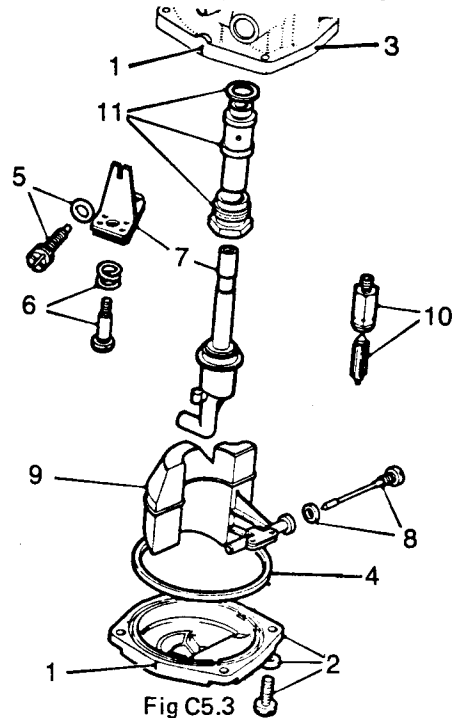

Fig C5.3
- (8) Refer to Fig C5.3. Mark the bottom cover-plate and body (1) to ensure correct reassembly. Unscrew the retaining screws (2) and remove the cover (3) complete with sealing ring (4).
- (9) Remove the jet adjusting screw (5) complete with O-ring.
- (10) Remove the jet adjusting lever retaining screw and spring (6).
- (11) Withdraw the jet complete with adjusting lever and disengage the lever (7).
- (12) Remove the float pivot spindle and fibre washer (8).
- (13) Withdraw the float (9).
- (14) Remove the needle valve and unscrew the valve seat (10).
- (15) Unscrew the jet bearing locking nut and withdraw the bearing complete with fibre washer (11).